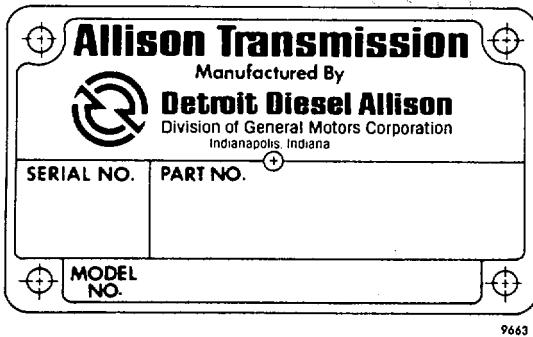

Fig. 1-7 Transmission name plate
a. Transmission Nameplate. The nameplate (fig. 1-7) is located on the right-rear side of the transmission. The nameplate displays the transmission serial number, part number (assembly number), and model number. All three of these must be supplied when ordering replacement parts or requesting service information.